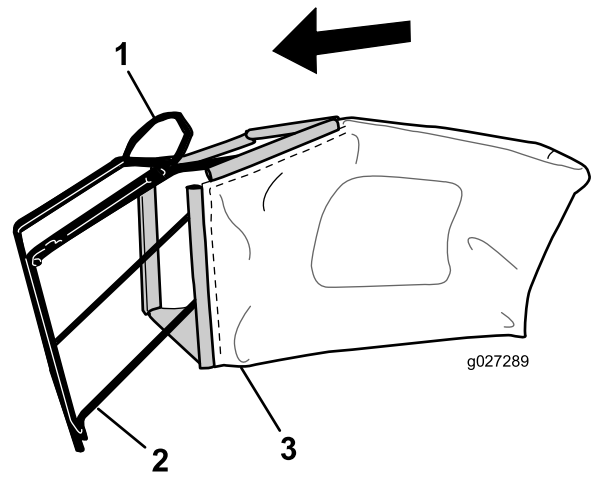

Figure 7
**Note:** Do not slip the bag over the handle (Figure 7).
1. Slip the grass bag over the frame as shown in Figure 7.